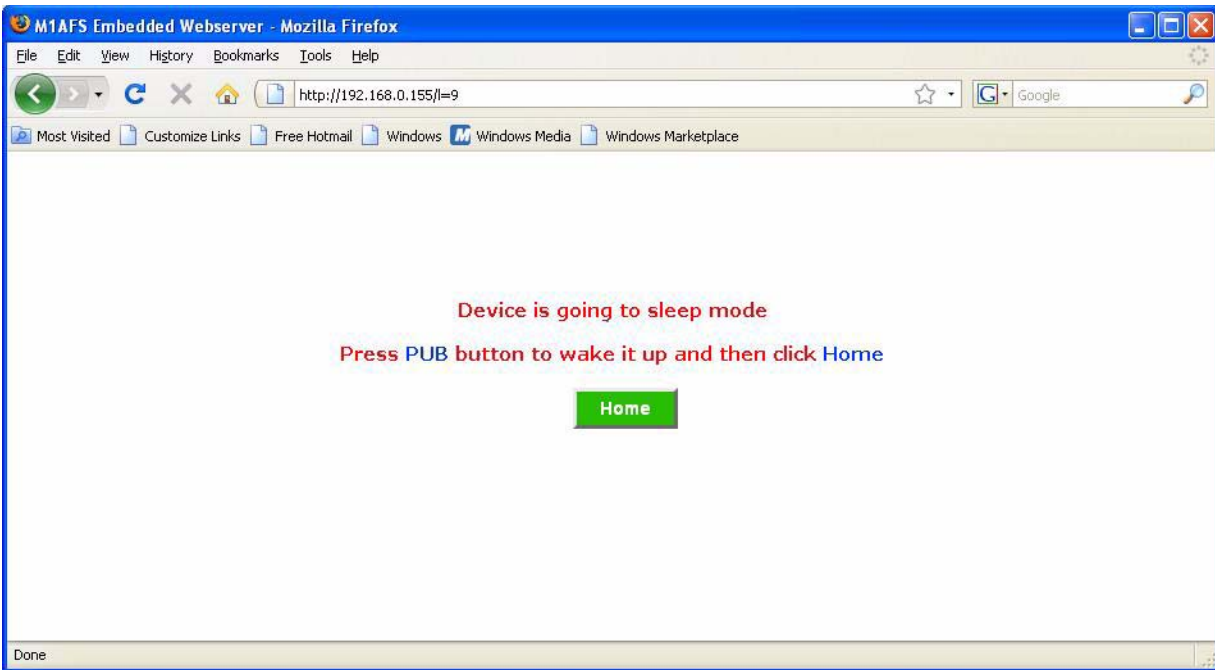

Figure 2-33 · Sleeping Stopwatch Mode
- The web page displays the message, “Device is going to sleep mode,” as shown in Figure 2-33.